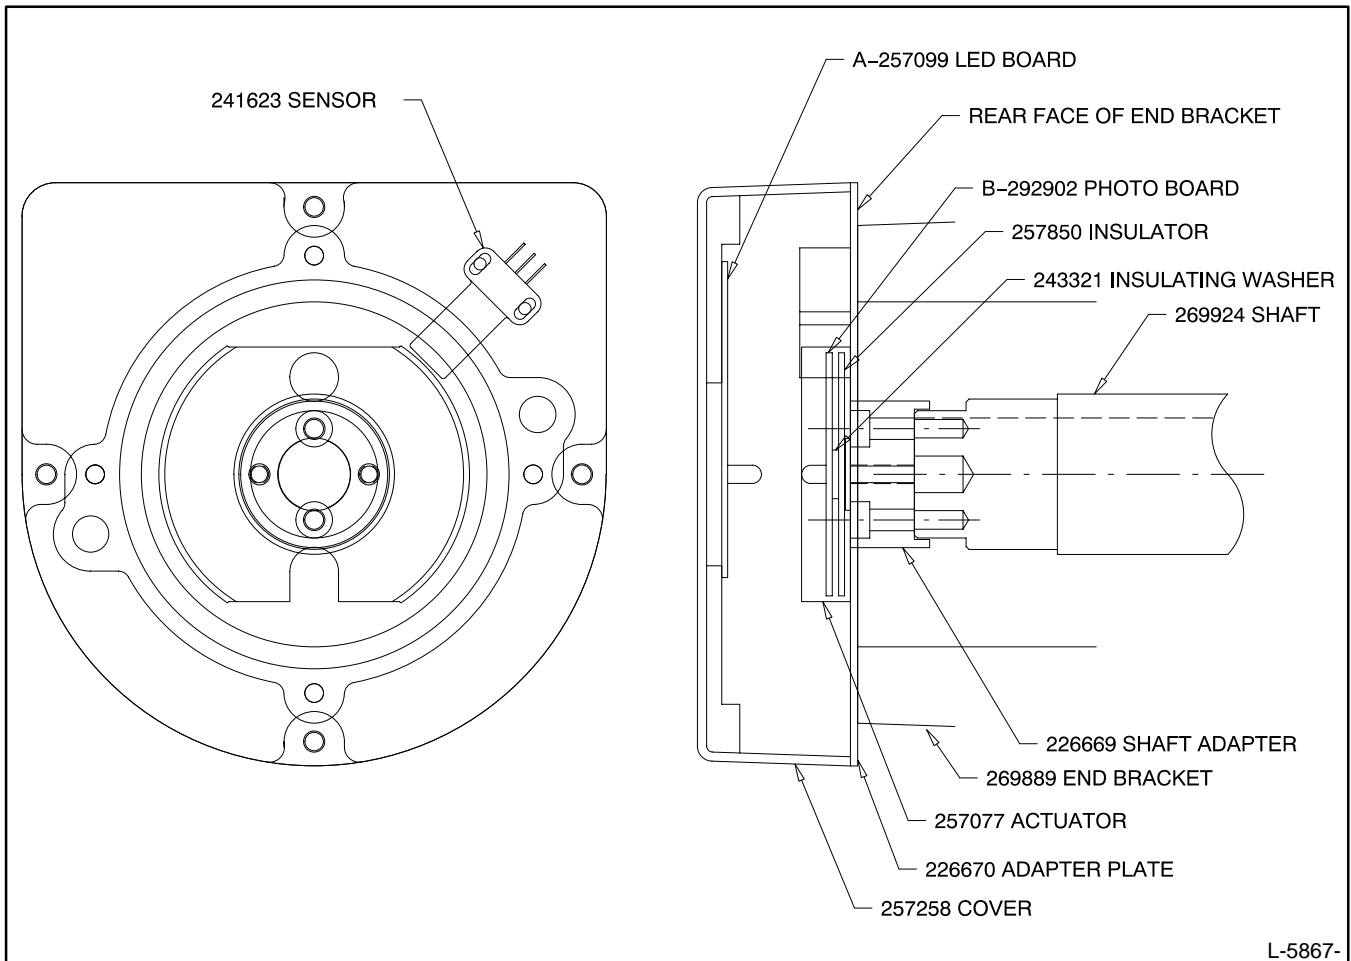

Figure 3. 30 kW Adapter Components
20. Mount adapter shaft (226669) to rotor shaft using two socket head screws (X-55-38). See Figure 3.
22. Attach photo transistor board (B-292902), two insulating washers (243321), insulator board (257850), and speed sensor actuator (257077) to end of rotor shaft using two screws (X-117-7) and flat washers (X-22-9). Torque to 10 in. lbs. (1.1 Nm) maximum. See Figure 3 for component sequence.